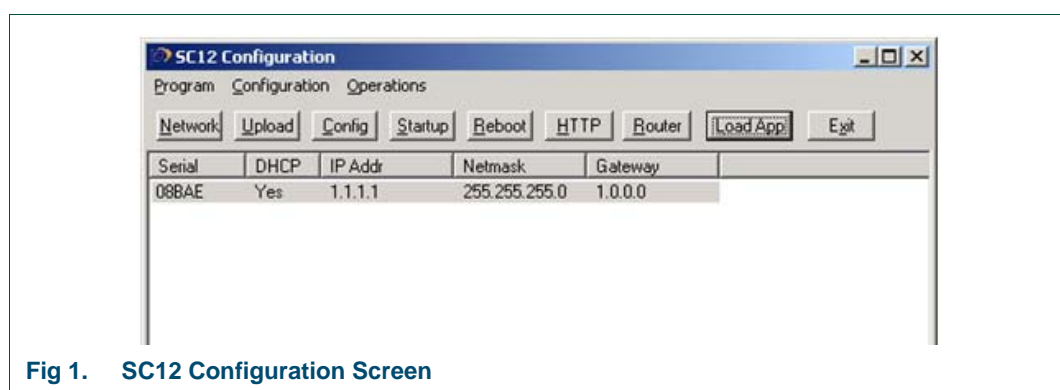

Fig 1. SC12 Configuration Screen
5. The serial number will match that printed on a barcode label on the Beck chip (Figure 1) on the router controller.